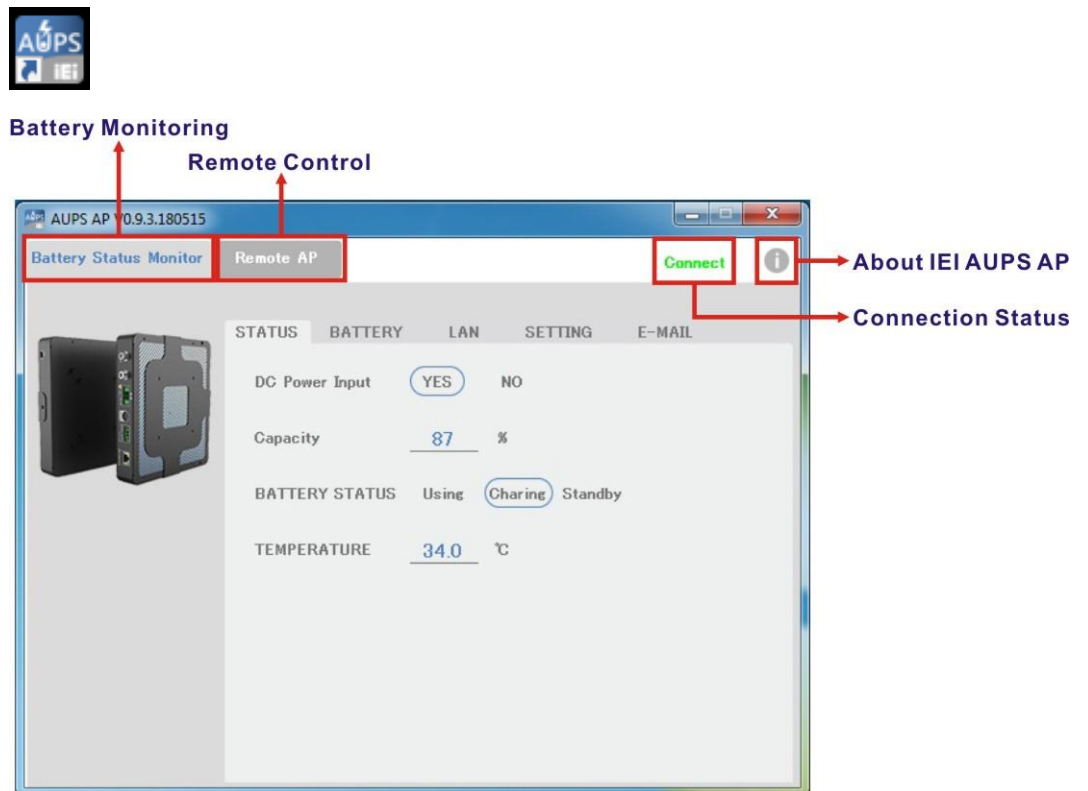

Figure 4-11: IEI AUPS Application Overview
Step 5: To launch the application, double click the shortcut (**Figure 4-11**) on the desktop